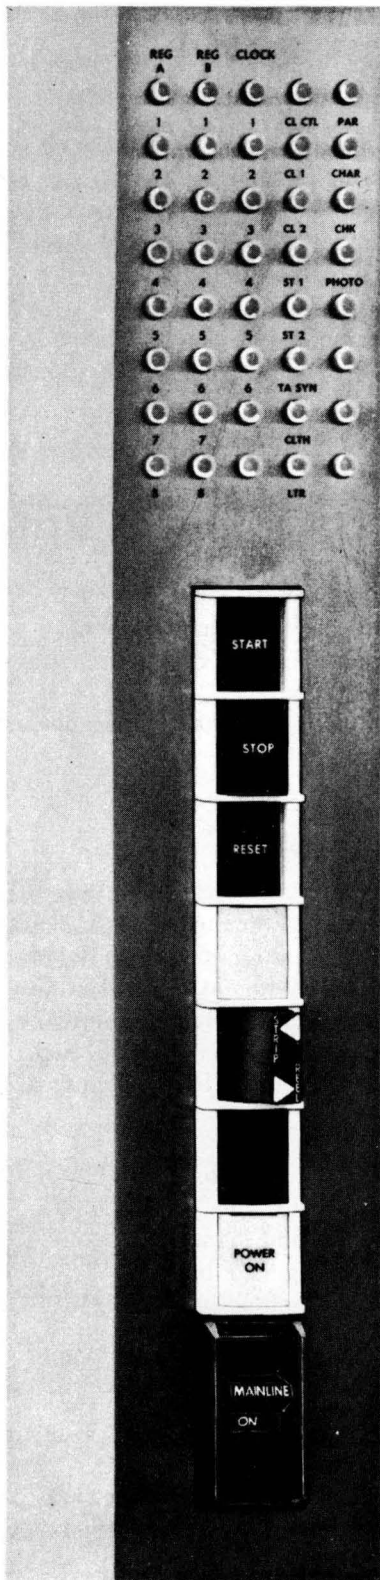
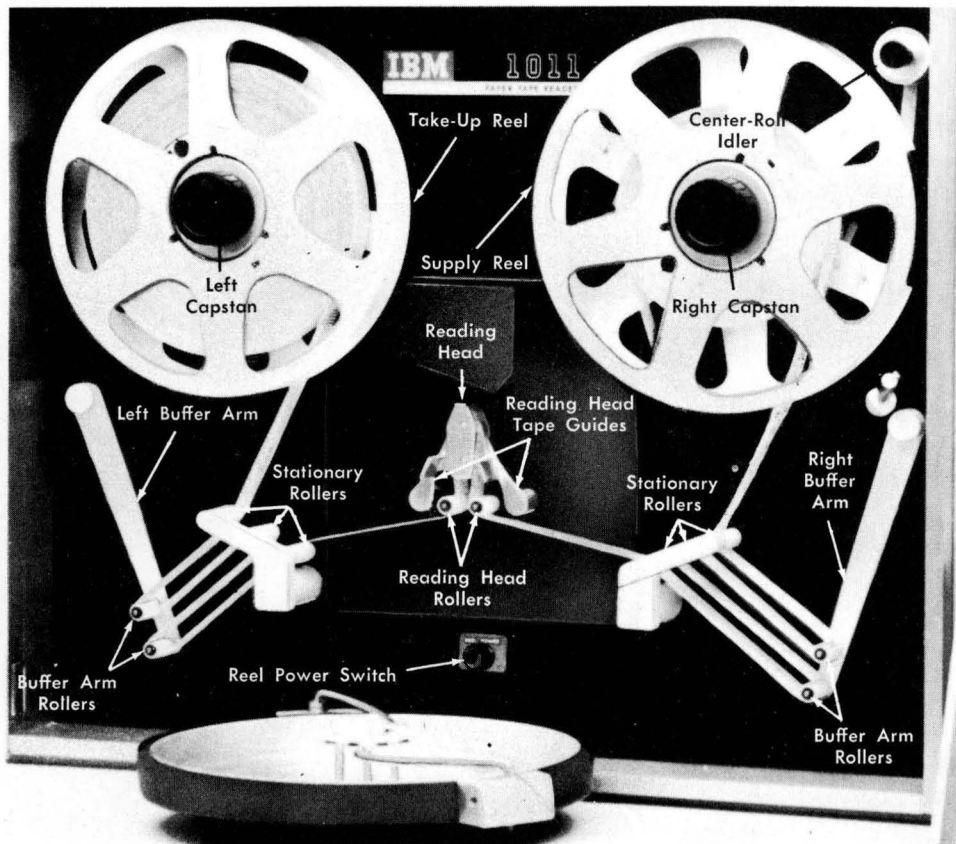

Figure 40. 1011 Operating Keys and Lights
Figure 42. Reel Feeding
The signal lights and control switches for the IBM 1011 Paper Tape Reader are shown in Figure 40. The indicator lights, located above the operating switches, keys, and lights are primarily for IBM Customer Engineers' use in diagnostic testing and preventive maintenance routines. The reel power switch is located on the tape reader below the reading head (Figure 42).
1. Turn the reel/strip toggle switch to the REEL position (Figure 42).